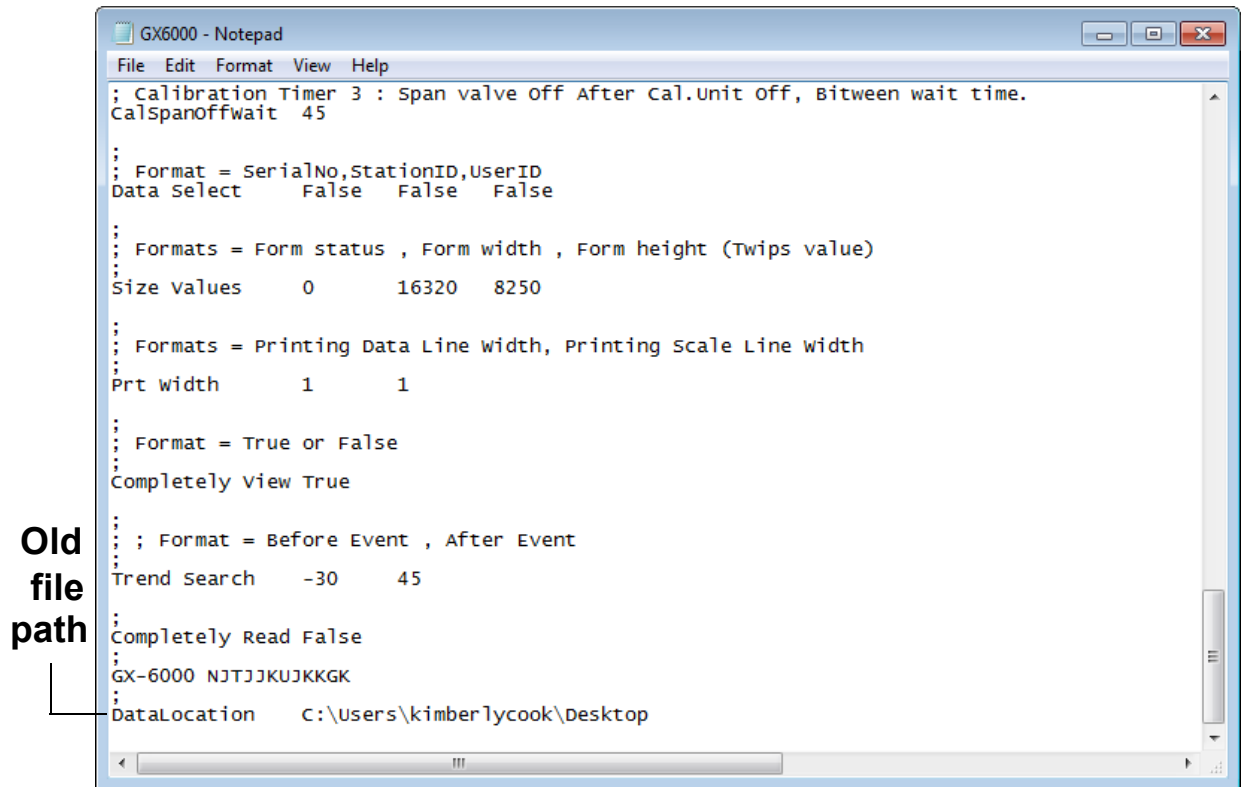

Figure 10: GX6000.ini File with Original Path
5. Scroll down to the very last line. This line is the Data Location path. An example of the path created by the program is shown in Figure 10. Replace the current path with the desired path (see Figure 11).